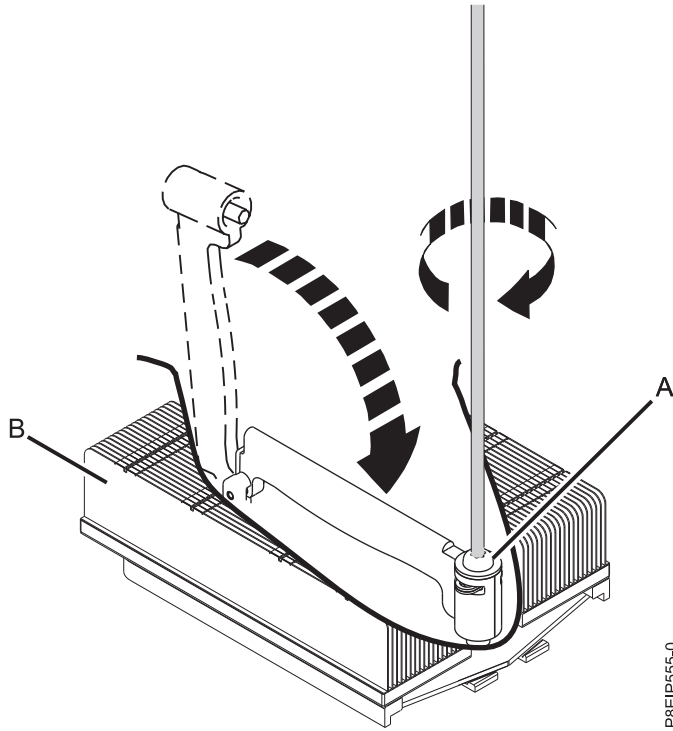

Figure 41. Tightening the load arm screw
12. Move the load arm (A) into position over the heat sink (B) and tighten the load arm screw with a #3 Phillips screw driver, as shown in Figure 41.